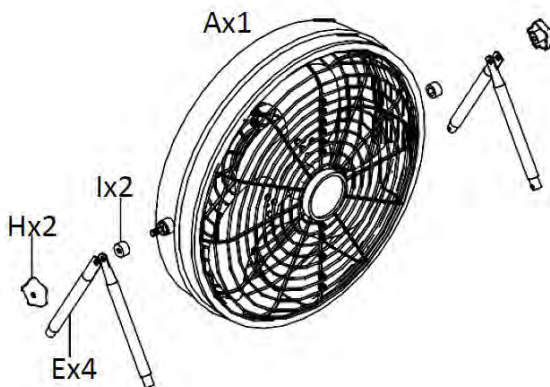
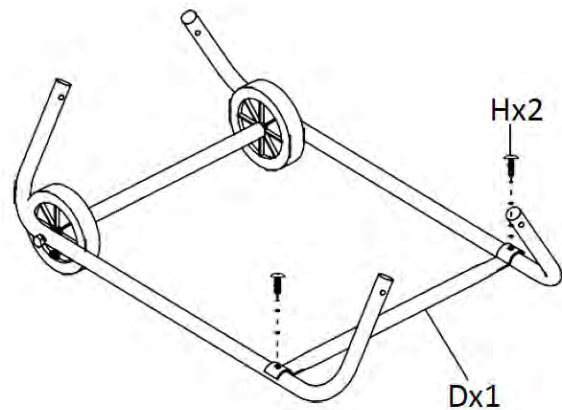

Fig. 3: Holding arm
Fig. 5: Install the cross brace
Step 1: Make sure the retaining arms on both sides are correctly connected to the fan housing (Fig. 3). The screw connection can be loosened by turning the star-shaped handle nut counterclockwise.
Step 4: Now screw the foot element of the fan (Fig. 3) to the base frame (Fig. 5).